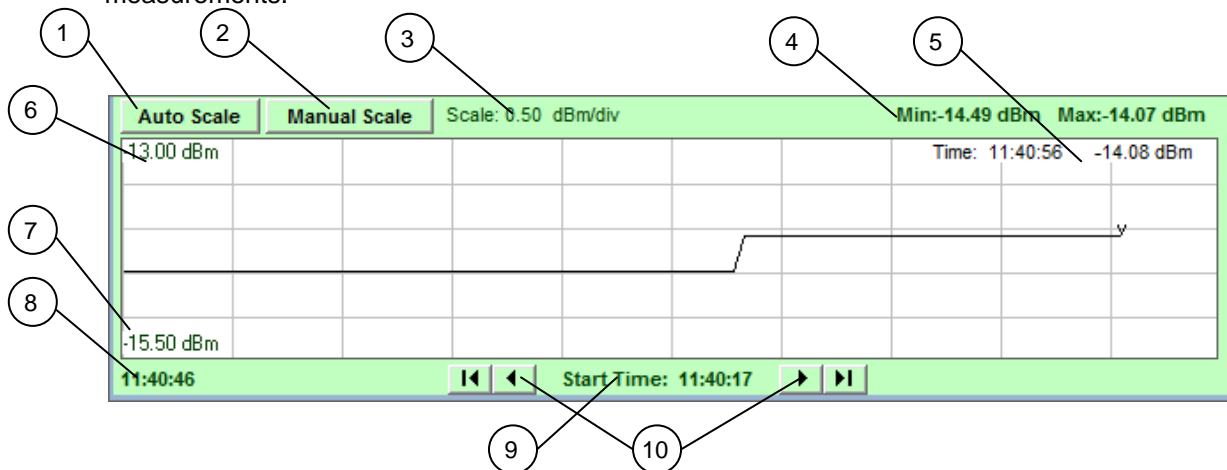

Figure 3.4: Real-Time graph
Checking the 'Display Live Graph' box in the bottom of the measurement screen will cause a graph window (Fig. 3.4) to appear below the measurement screen showing the power measurements.
3.4.1 Live graph indicators and functions (Fig. 3.4)